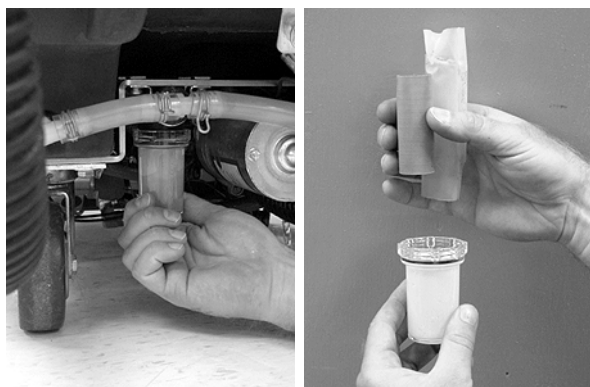

FIG. 38
1. Remove the solution tank filter from underneath the machine and rinse out the screens. Make sure the solution tank is empty before removing filter (Figure 38).